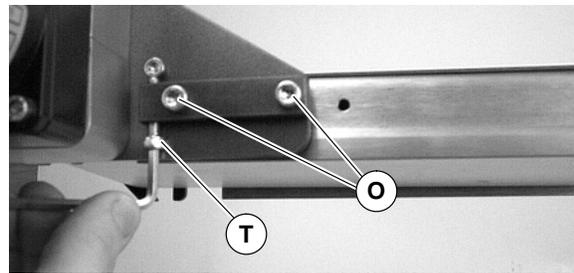

Figure 9
11. Tighten timing belt tensioner screw (T of Figure 9) to 15 in-lb (1.7 Nm).
12. Tighten screws (O) to 80 in-lb (9 Nm).